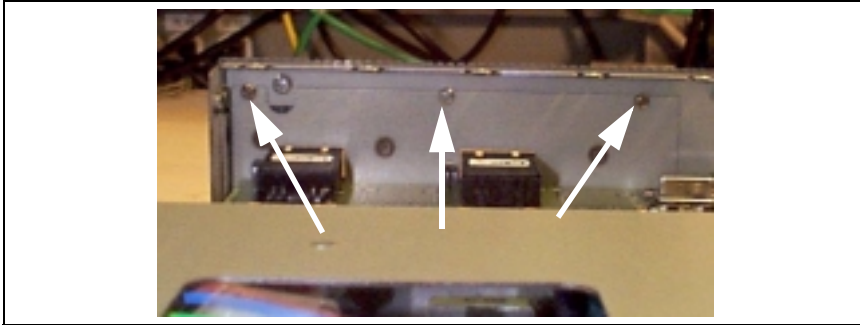

Figure C.5 - Remove the Three Retaining Screws
- a. Using a Phillips screwdriver, remove the three screws on the back of the faceplate inside the front of the LE25 as shown in Figure C.5. These screws secure the PEM in Interface D of an LE25.